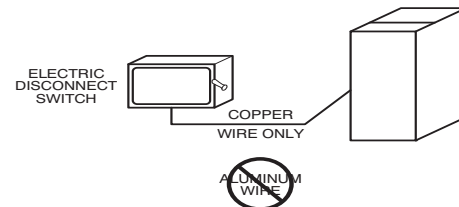

Fig. 34 – Field-Supplied External Electrical Box on Furnace Casing
1. Drill two (2) 1/8-in. (3 mm) pilot holes through the dimples in the furnace casing near the 7/8-in. knock-out on the side of the casing. Do not remove the knock-out in the side of the casing.
9. Connect field power and neutral leads to furnace power leads inside the external electrical box as shown in Fig. 34.